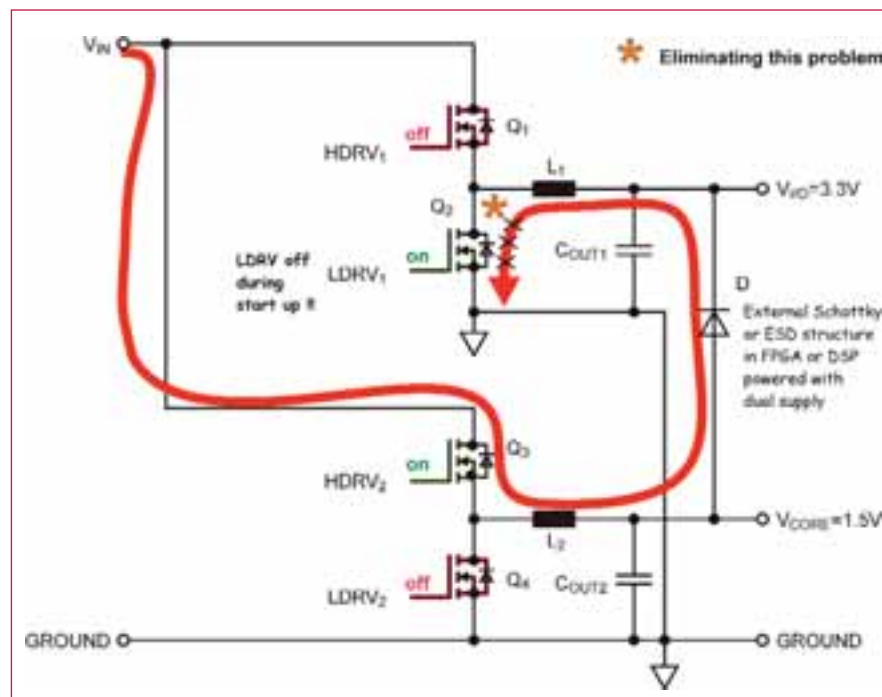

Figure 4. Two converter Output Stages shown during a Pre-Bias Start-Up.
The TPS40100 employs synchronous rectification to improve efficiency, as illustrated by the simplified circuit shown in Figure 4. During power up, some applications require that the converter does not sink current during startup if a pre-existing voltage exists at the output. In this drawn example, the core voltage comes up first and applies I/O voltage through the external series diode (or ESD diodes in the connected load) before the converter stage generating the I/O voltage is enabled. This is defined as a pre-bias condition, in which voltage is applied to the I/O converter's output before the converter is enabled. When the converter's PWM controller is enabled, it soft-starts the high-side FET, and its duty cycle (D) ramps gradually from zero to that required for regulation. However, if, during soft-start, the synchronous rectifier (Q_2) FET is on when the high-side FET is off (synchronous rectifier FET duty cycle = $1-D$), the synchronous rectifier FET (Q_2) sinks current from the output (through the inductor), tending to cause both the I/O and core voltages to drop.